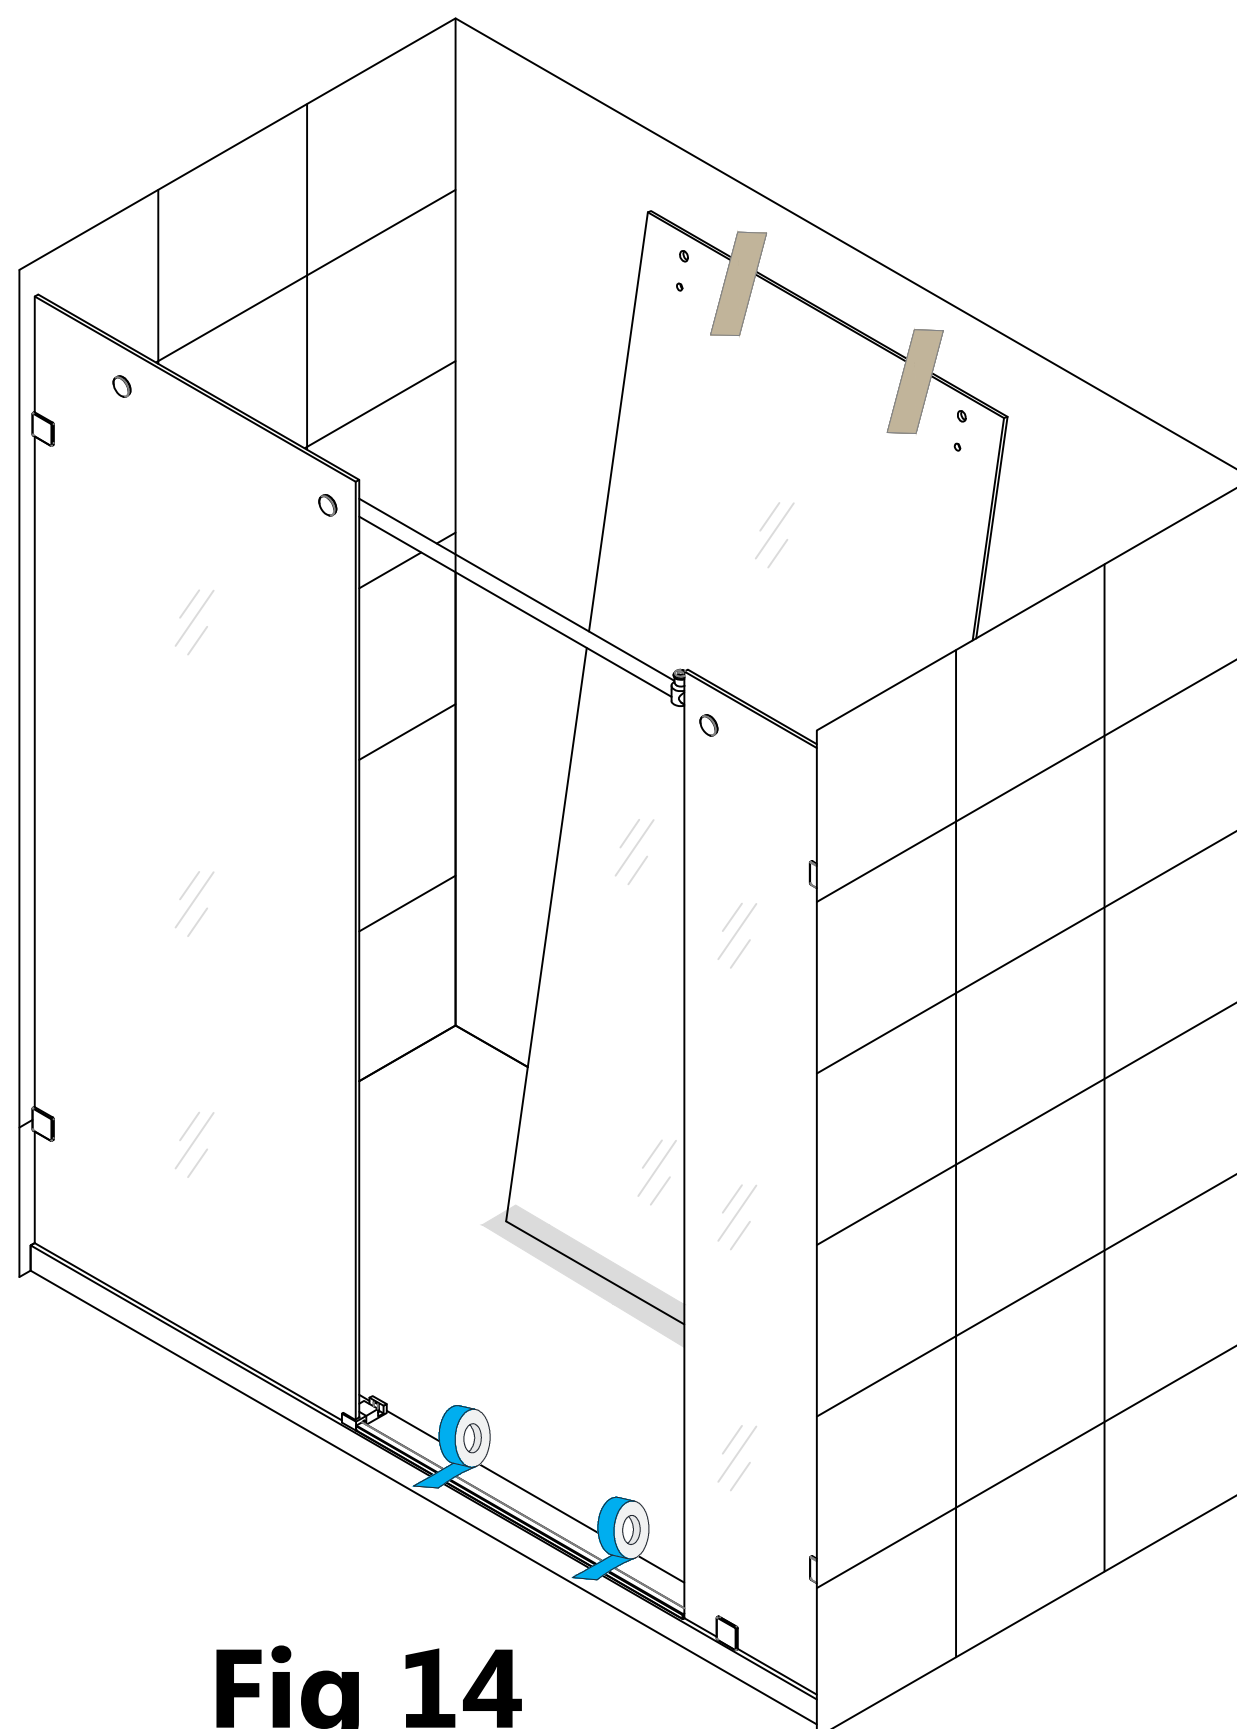

Fig 14
11. Secure the **Anti-Splash Guard (B)** to the threshold with several pieces of painter's tape to hold it in position tight to the threshold until the silicone fully cures. **(Fig 14)**